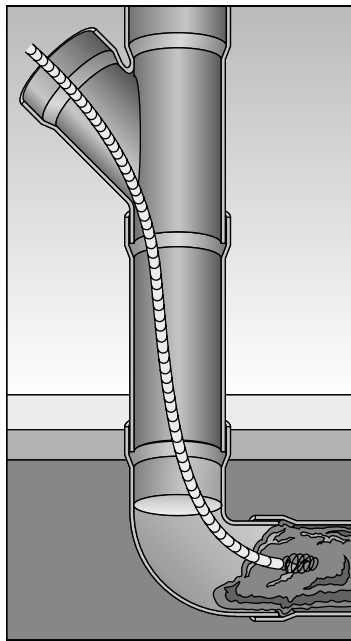

FIGURE 9-3:
2. Use a plumber's auger, or *snake*, to clear a clog at the first sign of a drainage problem. (See Figure 9-3.)